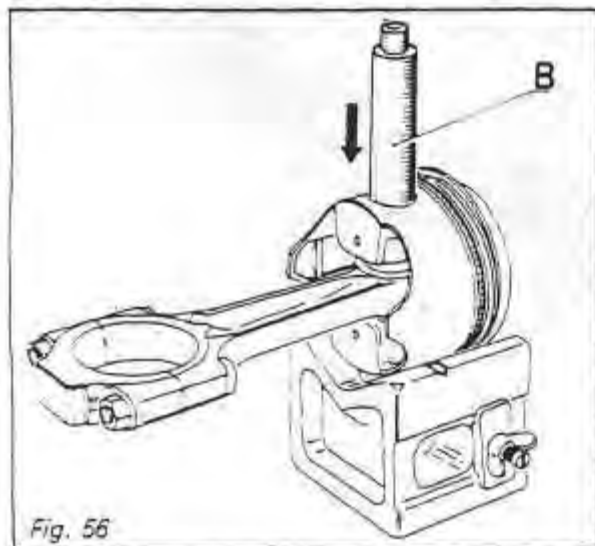

Fig. 56
Rest the piston in the vee on the support base, with the gudgeon pin over the extraction hole. Press out the piston with the extracting mandrel (B). (Fig. 56)